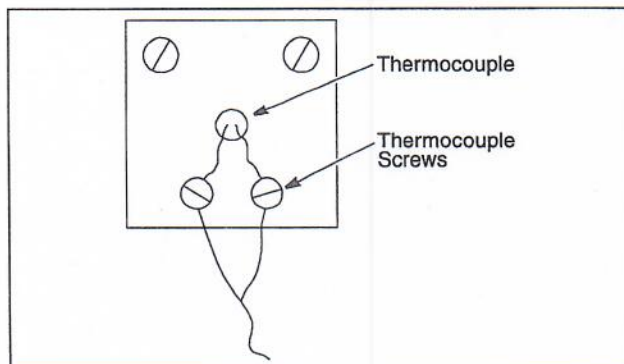

Figure 1. Thermocouple
3. Check the thermocouple wiring connections. Refer to Figure 1. Red is always negative.